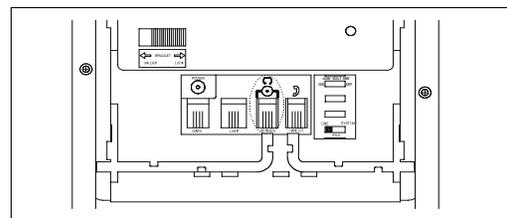

Figure 1
1. Press and hold the “**STORE**” key for 6 seconds to activate Administrator mode. The words “ENTER ACCESS NO.” will appear (figure 1).
- Plug the modular end of the headset cord into the modular port of the telephone labeled “HEADSET” (figure 1).